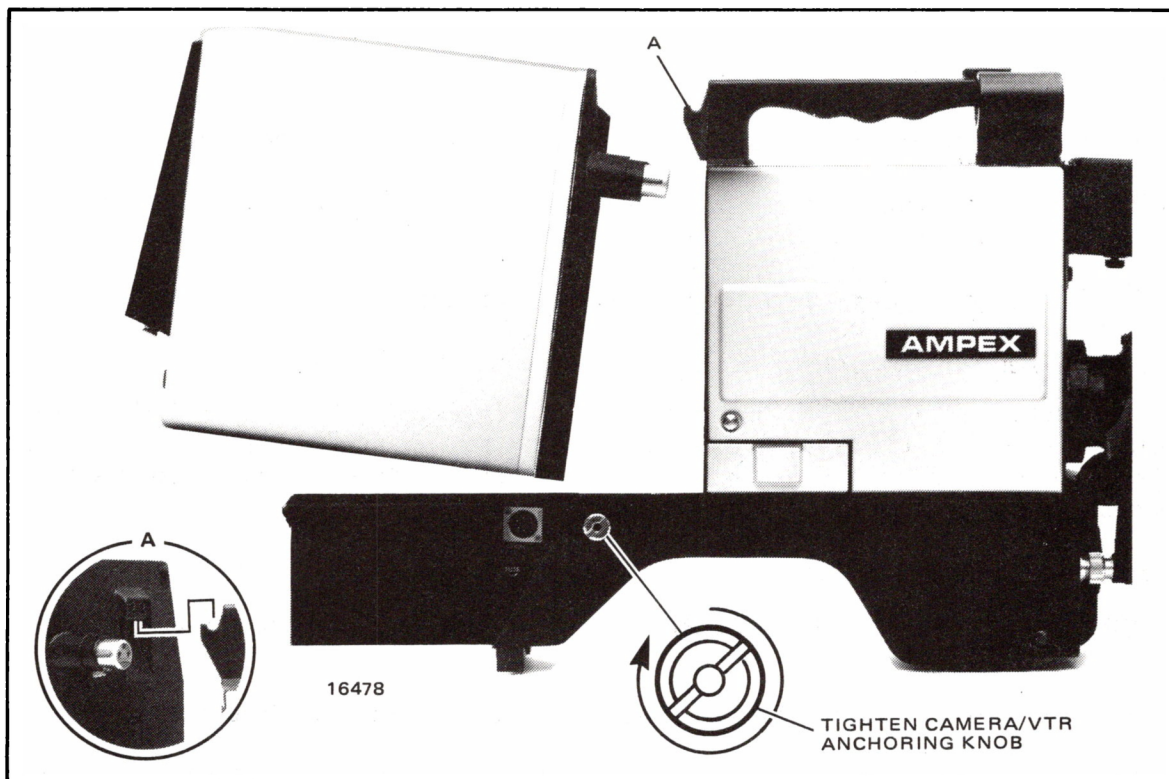

Figure 2-3. Attaching VTR Mount Base to VTR
- STEP 2 Tighten camera/VTR anchoring knob (see Figure 2-3).